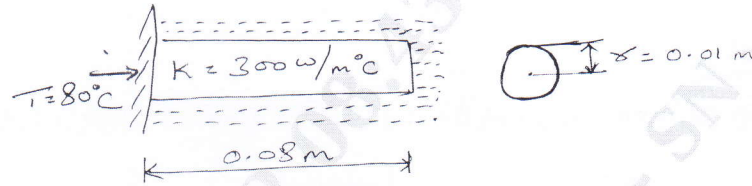

Fig.Q8(a)
- 8 a. Calculate the temperature distribution in a 1D fin with physical properties given in Fig.Q8(a), there is a uniform generation of heat inside the wall of $Q = 400 \text{ W/m}^3$.